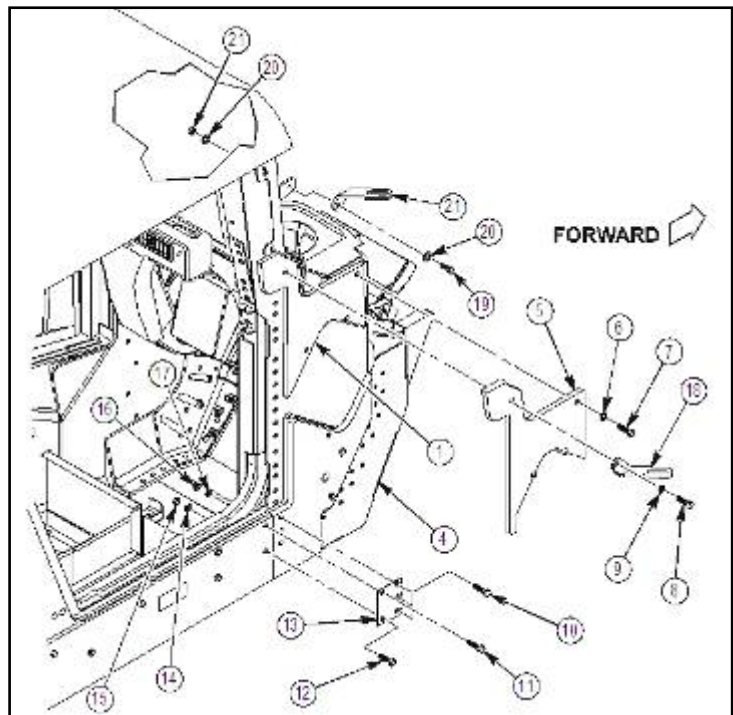

Figure 35a
17. Apply 8030-01-025-1692 sealing compound to threads of three 4397000-077 capscrews (10). Refer to figure 35a.
18. Install existing modified A-pillar to rocker gap plate (13) with three 4397000-077 capscrews (10) as shown in figure 35a. Do not tighten capscrews (10) at this time.
19. Install 4397001-073 capscrew (12), 4397005-014 washer (14), and 4397064-006 locknut (15) as shown in figure 35a. Do not tighten locknut (15) at this time.
20. Install 4397000-020 capscrew (11), 4397005-010 washer
(17), and 4397064-001 locknut (16) as shown in figure 35a. Tighten three capscrews (10) and one locknut (15) to 37 lb-ft (50.2 N·m), and locknut (16) to 10 lb-ft (13.6 N·m).
25. Apply 8030-01-025-1692 sealing compound to threads of 4397000-015 capscrew (7) and 4397000-041 capscrew (8). Refer to figure 35a.
26. Install 6435012-01M1 or 6435012-200M1 upper right A-pillar panel IED overlay (5), existing right side A-pillar aluminum overlay (1), and 6435019-01M1 or 6435019-200M1 lower right hand mirror bracket (18) on vehicle (4). Push forward towards front of vehicle and secure with 4397000-041 capscrew (8), 4397005-013 washer (9), 4397000-015 capscrew (7), and 4397005-010 washer (6) as shown in figure 35a. Tighten capscrew (8) to 21 lb-ft (28.5 N·m) and capscrew (7) to 6 lb-ft (8.1 N·m).
27. Install 6435489-01M1 or 6435489-200M1 upper right hand mirror bracket (21) with one 4397000-034 capscrew (19), two 4397005-012 washers (20), and one 4397064-003 locknut (21) as shown in figure 35a. Tighten locknut (21) to 21 lb-ft (28.5 N·m)